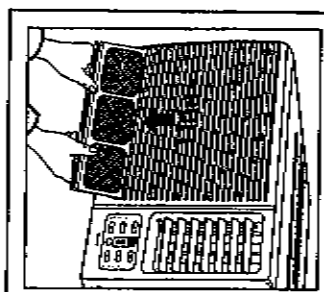

Fig. 1b
- Grasp the air filter and pull straight out. Fig. 1b